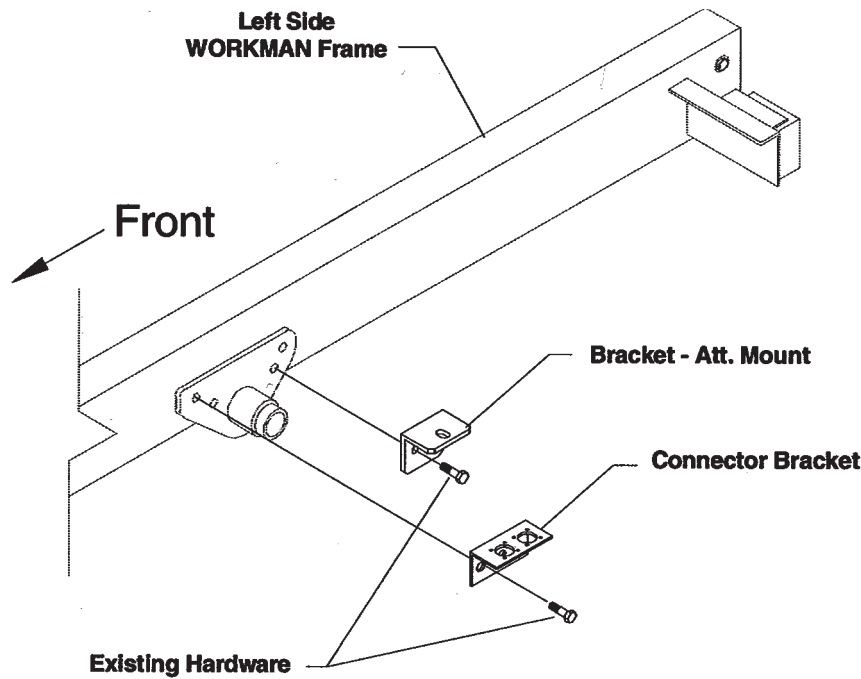

Figure 5
3. Mount connector bracket to the left side of the rear frame of the Workman, using the front two bolts of the main engine support tube (Fig. 5).